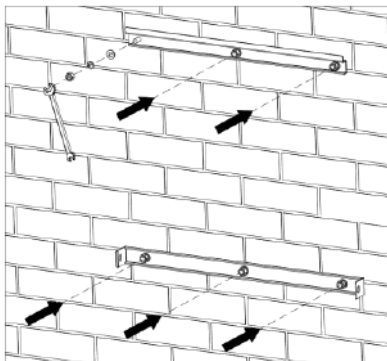

Figure 4.11 Fix the installation bracket
- (4) Fix the installation bracket onto the expansion bolts and ensure the installation is firm enough (tightening torque is $13\text{N}\cdot\text{m}$). As shown in Figure 4.11.